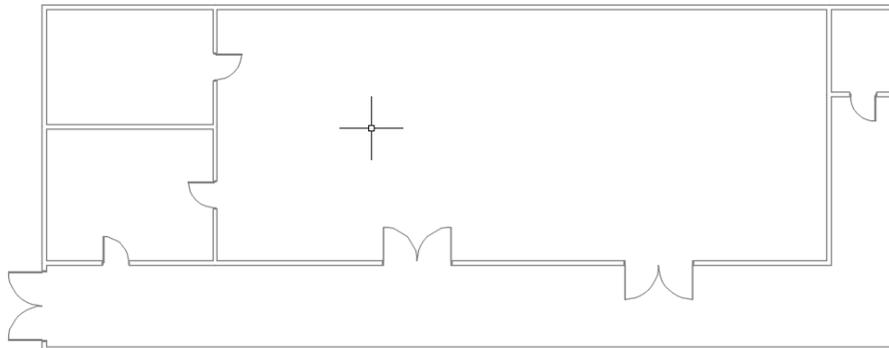

Figure 3-49 The drawing after creating all the doors
- e. Create the roof according to the plan, refer to Figure 3-49.
After creating the doors, the drawing is displayed as shown in Figure 3-49.